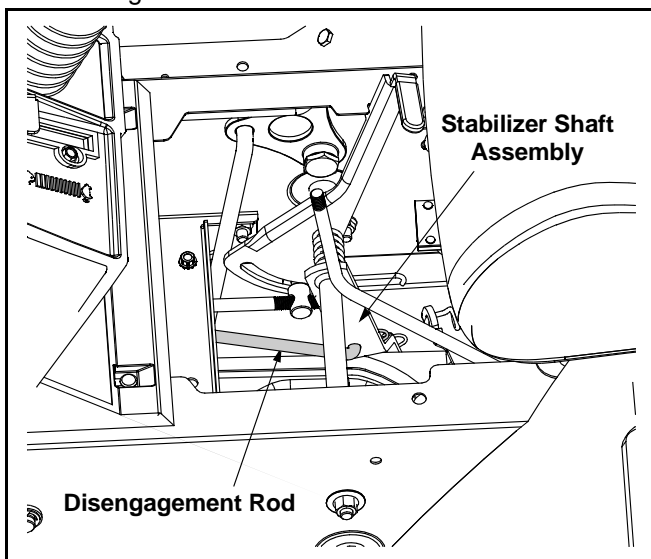

Figure 8
- Remove the shift cover panel and locate the deck disengagement rod. See Figure 8.
- Remove the hairpin clip which secures the disengagement rod to the stabilizer shaft assembly. See Figure 8.